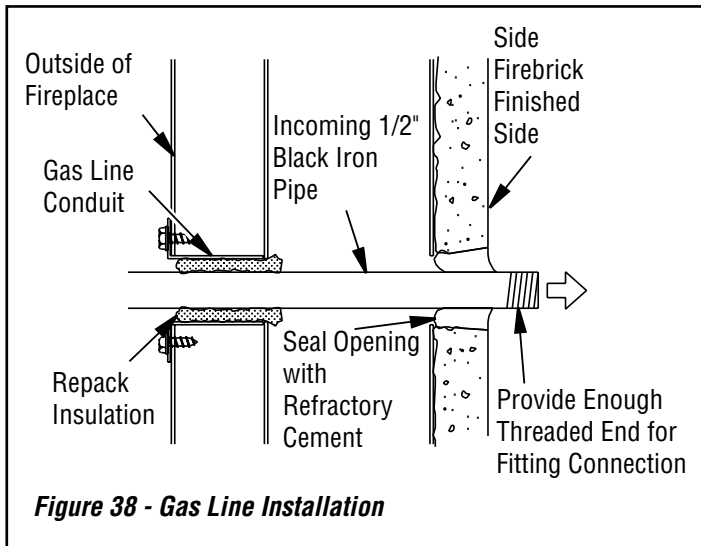

Figure 38 - Gas Line Installation
3. Run a 1/2" black iron gas line into fireplace through the rear at gas line conduit sleeve (if using a raised platform, add height). Provide sufficient gas line into fireplace chamber for fitting connection (see **Figure 38, Page 19**).